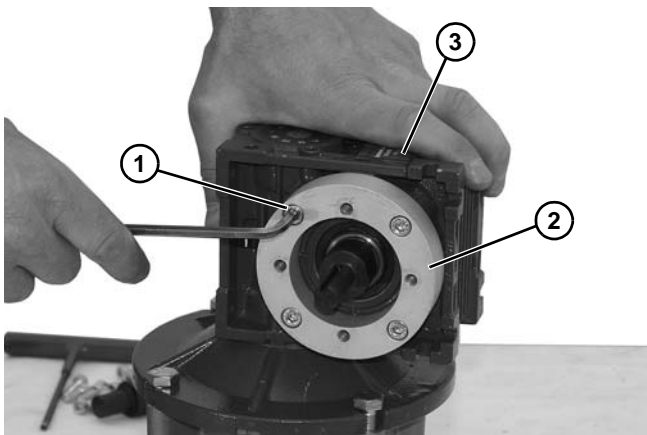

Figure 28
*Step 6 and (**Figure 28, item 2**) is required for standard load VFD gearmotors only.*
6. Loosen four (4) socket head screws (**Figure 28, item 1**) and detach spacer (**Figure 28, item 2**) from gear reducer (**Figure 28, item 3**).
9. Install spacer (Figure 28, item 2) onto gear reducer (Figure 28, item 3) with four (4) socket head screws (Figure 28, item 1).
5. Install spacer (**Figure 28, item 2**) onto gear reducer (**Figure 28, item 3**) with four (4) socket head screws (**Figure 28, item 1**).